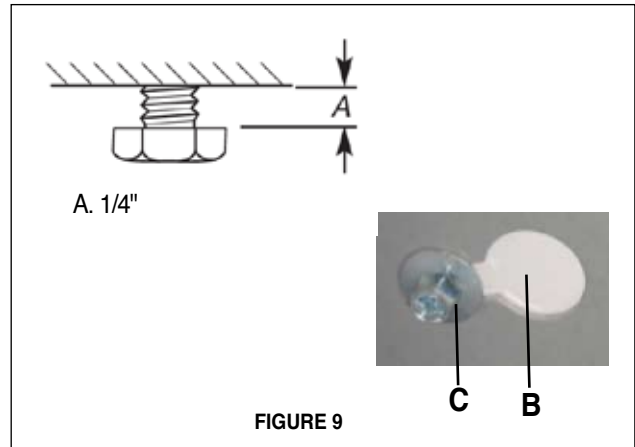

FIGURE 9
8. Install in previously drilled pilot holes in the ceiling the 4 bolts, washers and nuts OR the wood screws from the parts bag depending on your ceiling type (PAGE 4). Leave screw heads about 1/4" away from ceiling joists (A in FIGURE 9).
12. Position the chimney support so that the large end of the keyhole slots are over the ceiling attachment bolts (B in FIGURE 9). Then push the chimney support so that the bolts are in the neck of the slots. (C in FIGURE 9) Tighten bolts securely.